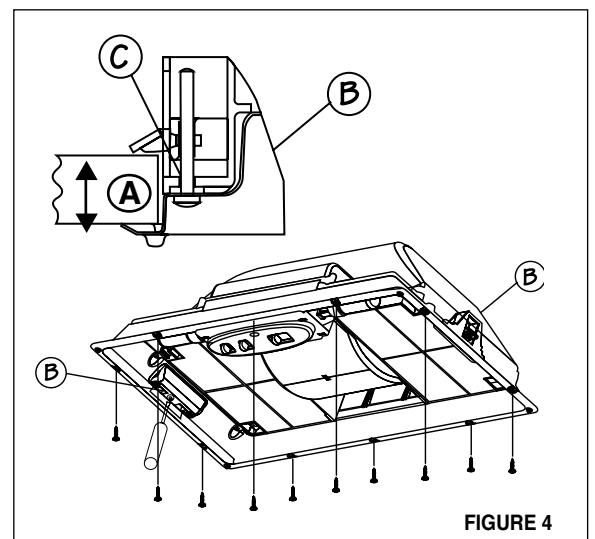

FIGURE 4
4. Fix the rangehood to the cabinet using the two spring loaded brackets, one on each side of the rangehood (**B** in **FIGURE 4**). Using a philips screwdriver, tighten the adjustment screw (**C** in **FIGURE 4**) until the brackets adhere tightly to the surface. For thicknesses of LESS than 3/4", insert a block of wood to fill in the gap between the cabinet bottom and the spring loaded bracket.
5. **IMPORTANT:** Also fix the rangehood to the cabinet using the 10 screws provided (**FIGURE 4**).